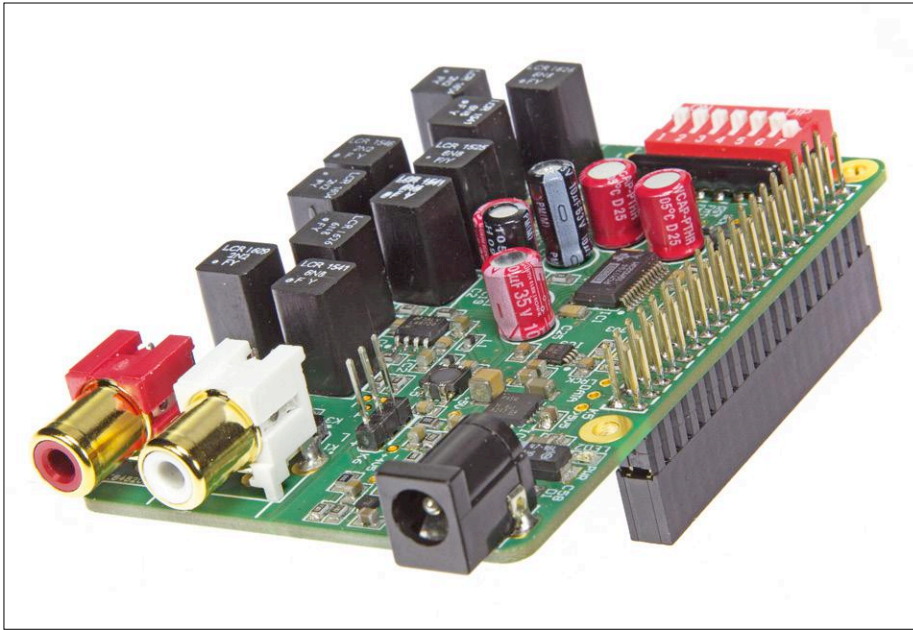

Figure 5. The GPIO connector is mounted on the bottom side.
**Figures 5 and 6** show what the complete network audio player looks like.